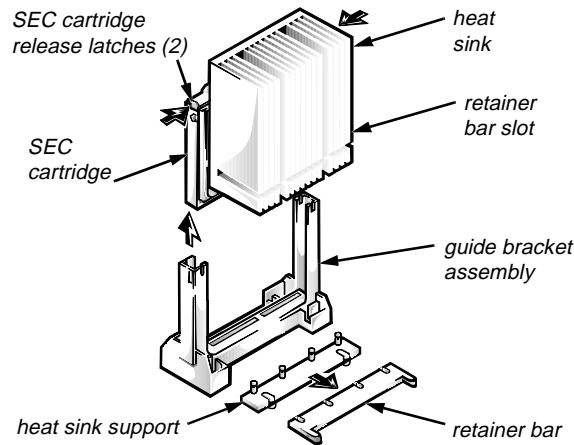

Figure 1. SEC Cartridge and Heat Sink Removal
2. Pinch the ends of the retainer bar (see Figure 1), and then slide the bar toward the front of the computer to remove it.